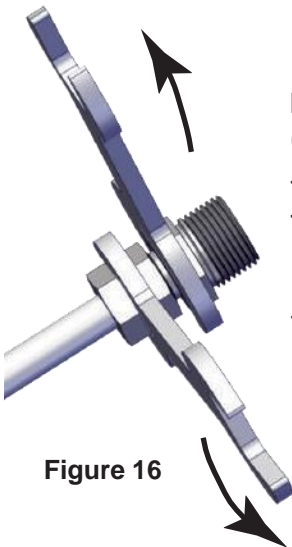

Figure 16
- Finally, use two wrenches to tighten the nut and joint with the opposite force as shown in Figure 16.
i If the equipment host is found to have water leakage at the joint during operation, it can be slowly tightened by referring to "Figure 16" until there is no water leakage.